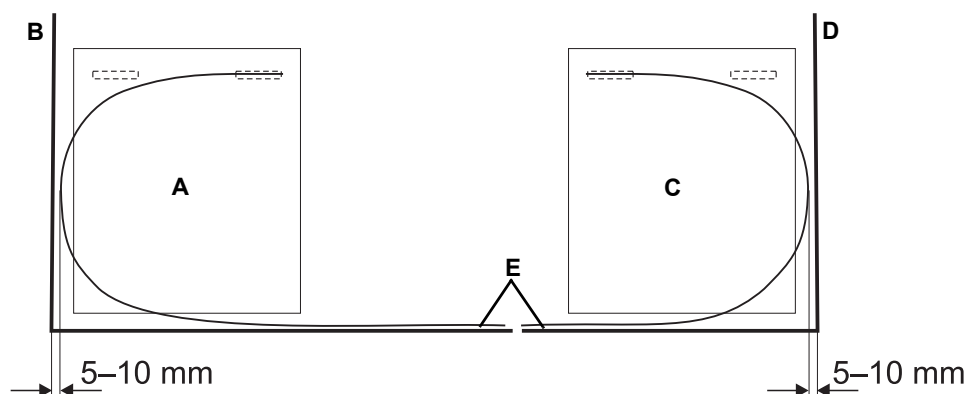

Fig. 8-120 Correct loop length of flex cables
- 3** Lead the flex cable through the slot (C) in the base unit.
- 4** Apply the cable clamp (B).
- 5** Adjust the length of the loop of the flex cable as per Fig. 8-120 "Correct loop length of flex cables",  8-103.
- 6** Fix the flex cable with the cable clips (A).